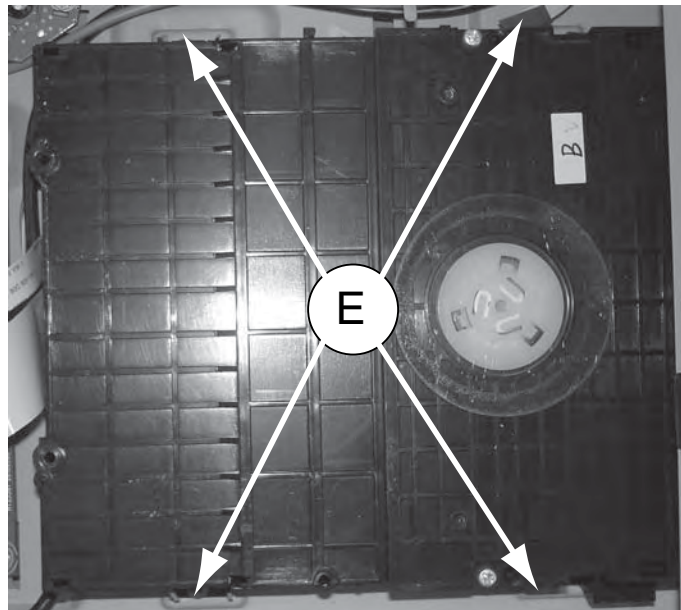

Figure 3
- a) Loosen 4 screws "E" at the DVD Module as shown in figure 3.